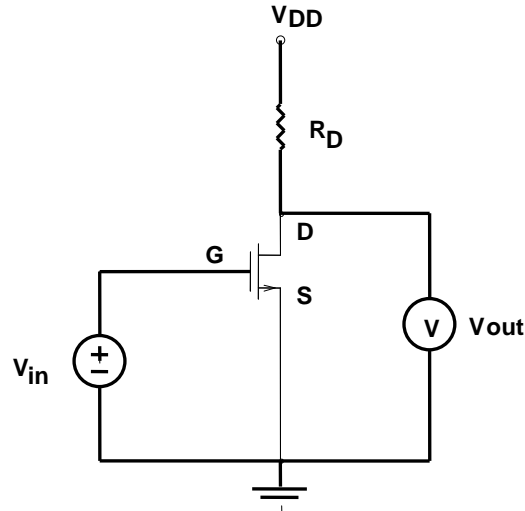
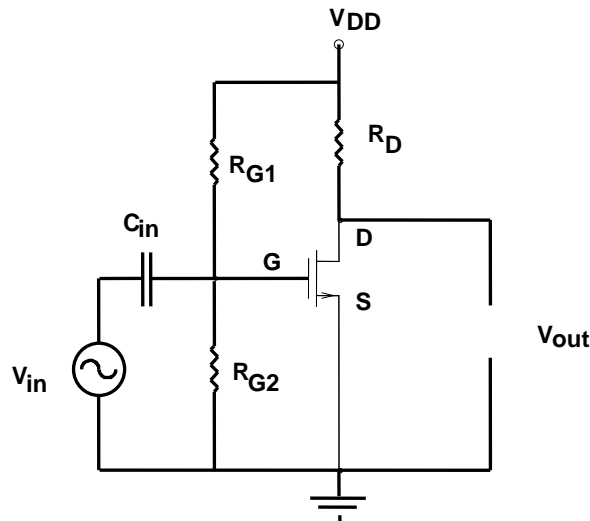
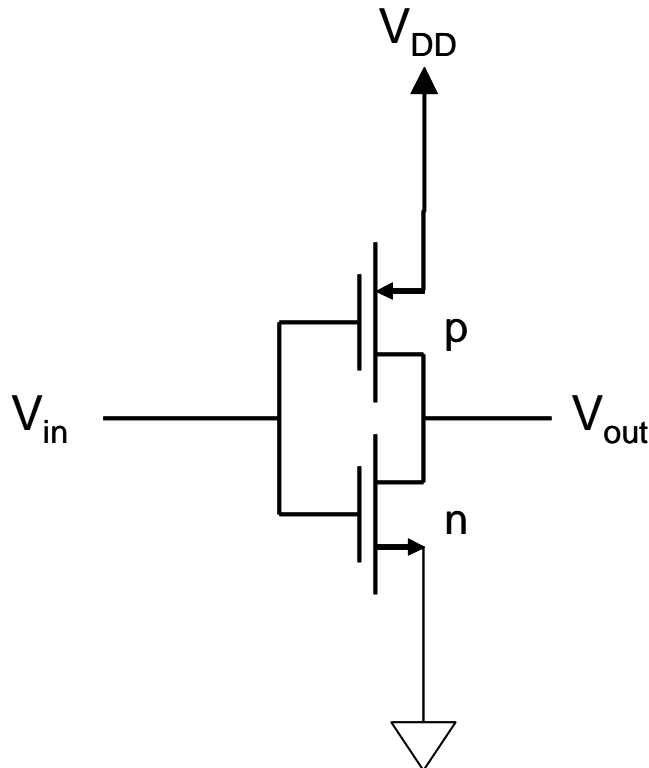

Figure 2. A MOSFET Inverter
Figure 3. A common-source (CS) MOSFET amplifier
Figure 4: The CMOS inverter
1. In Fig. 3 find R_{G1} and R_{G2} such that $V_{GS} = 2$ volts. Compute I_D and V_{DS} if $V_T = 1$ volt and $k_n'(W/L) = 0.5 \text{ mA/V}^2$ (see eqns. 4.5a,b in the 5th edition of Sedra and Smith). (If you only have the 2nd edition of Hambley, refer to Section 5.3 and use the values of 1 volt for V_{to} and $K = 0.25 \text{ mA/V}^2$ in equation 5.18.) Remember that this is a DC analysis, so set $v_{in} = 0$. (Note: there are many correct solutions for R_{G1} and R_{G2} !)
Build the simple MOSFET inverter shown in figure 2. You may use any of the three n-channel MOSFETs on the CD4007, but don't forget to connect pins 7 and 14 as described above!
To use the circuit in Fig. 2 as an amplifier, we need to add a circuit to the *gate* which sets the bias point (V_{GS}). One way to do this is shown in Figure 3 below:
The logic inverter in Figure 2 has one major flaw. The power dissipation is too high when the output is low. This would not be a practical logic gate in a modern integrated circuit because a large number of these gates would use a huge amount of power. The CMOS logic family significantly reduces power dissipation by replacing the drain resistance (R_D) with a p-channel MOSFET as shown in Figure 4.
j) Build the CMOS inverter shown in Figure 4. Here, use output 1 from the Power Supply for $V_{dd} = 10V$, and output 2 for V_{in} .
m) Using an Ammeter, determine the total power dissipation of this inverter when $V_{in} = 0$ and when $V_{in} = 10V$. Assume that the two inverters (Figure 2 and Figure 4) are in the high state 50% of the time and in the low state 50% of the time for many logic applications. **Compare the average power dissipation of the two inverters, and describe the benefit of CMOS logic.**